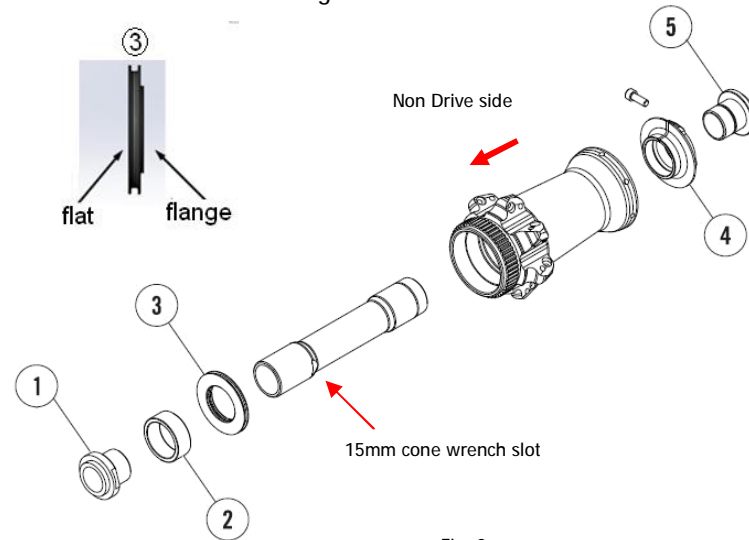

Fig. 2
1. Install TA end cap ① to axle by using 15mm and 17mm cone wrench.
2. Insert ② onto axle.
3. Insert ③ onto axle with flat face toward Spacer ②, flange face to hub. (Fig.2)
5. Install PRA adjustment collar ④. For adjustment see wheelset installation instruction.
6. Press TA end cap ⑤ onto axle.
7. Tighten the M3 PRA adjust collar set screw in the PRA adjustment collar ④ using a 2.5mm Allen Key.